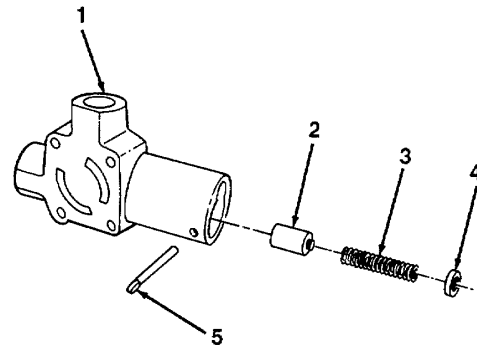

Figure 5-49. Oil Pump Pressure Relief Valve.
- (1) Remove the oil pump (see c above).
- (2) Remove suction and delivery pipes (10).
- (3) Remove the four securing setscrews and remove the end cover assembly.
- (4) Remove the cotter pin (5, Figure 5-49) from the end of housing (1) and withdraw the spring cap (4), spring (3), and plunger (2). Discard cotter pin.
- (5) Thoroughly clean the parts, inspect for wear or damage, and replace if necessary.
i. Oil Pump Pressure Relief Valve Installation (see Figure 5-49).
- (1) Install the plunger (2), spring (3), and spring cap (4), and secure with new cotter pin (5).
- (2) Install end cover assembly with four securing setscrews.
- (3) Install the oil pump (see g above).